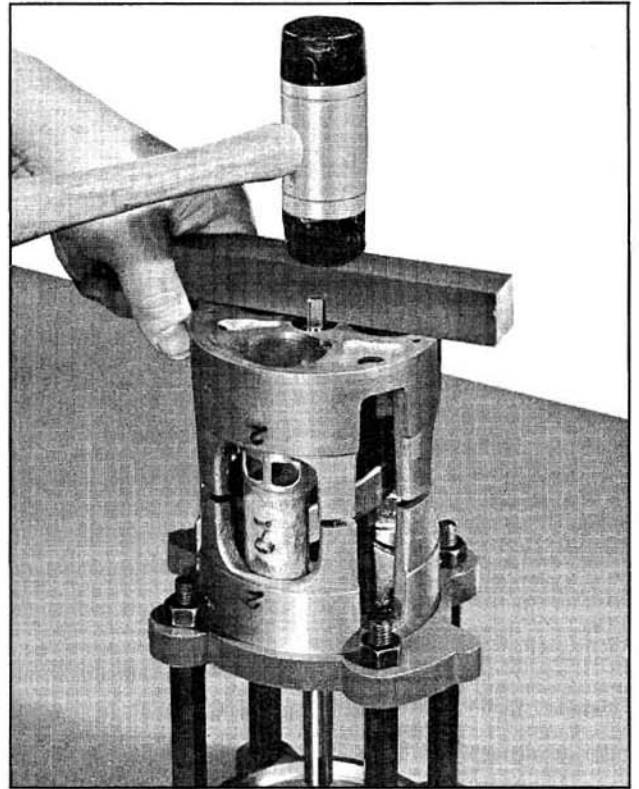

Fig. 14-133 Assembling Cylinder Halves
21. Rotate the shaft to position the pistons in a "stair step" arrangement. Place the rear half of the cylinder over the shaft and start the pistons and rings into the cylinder bores. When all parts are in proper alignment, tap rear cylinder with a wood block and mallet to seat the rear cylinder over the locating dowel pins. (Fig. 14-133)